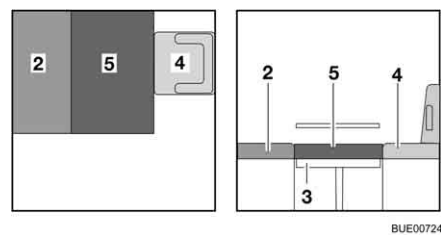

Fig. 117 After conversion
- Place the additional cushion (Fig. 117,5) on the table.
- If required, push the driver's seat (Fig. 117,4) back to the rear.